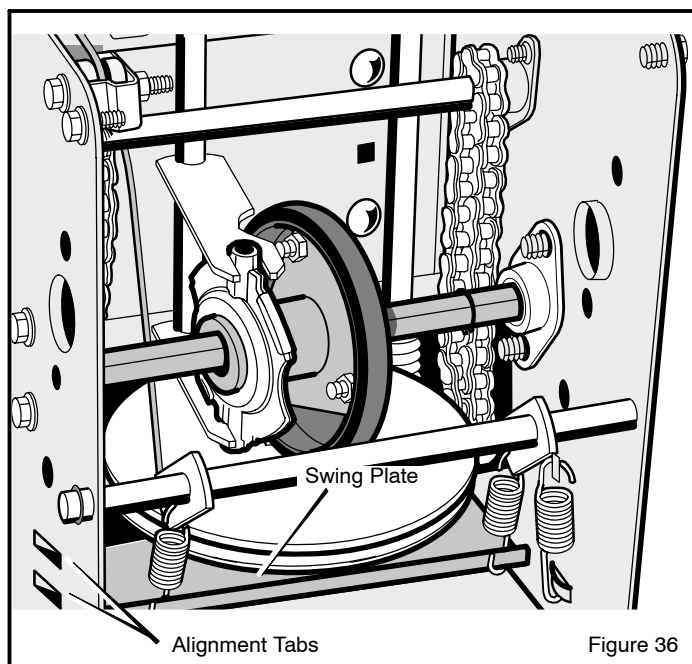

Figure 36
10. The bottom of the **swing plate** must be positioned between the **alignment tabs**. Make sure the **swing plate** is properly secured (see Figure 36).